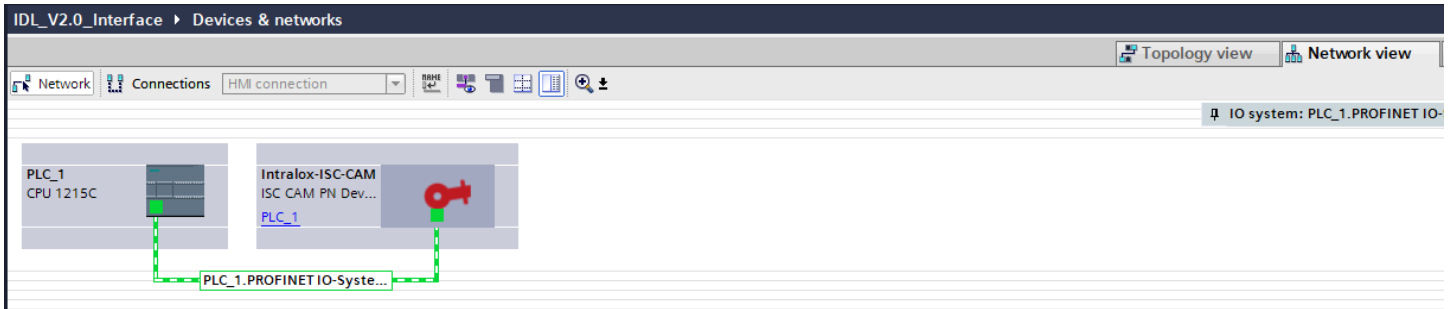

Figure 8: Connect ISC CAM to IO Controller
14. Click on “Not assigned” on the “ISC CAM PN Device,” Figure 8.